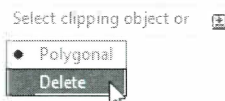

Figure 8–24
- Double-click inside the rectangular viewport. Open the Layer Properties Manager and for layer **HVAC**, toggle the  (VP Freeze) option, as shown in Figure 8–25. Note that the HVAC components do not display in this viewport only.
- Change the *VP Color* for the layer **Stair** to **Green** (as shown in Figure 8–25) and note that the stairs become green in this viewport only. Note that the regular layer color is still blue.